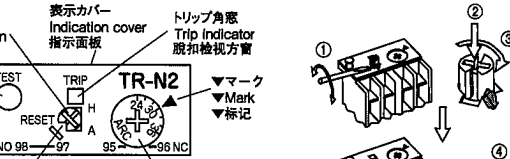

Fig.9
- (1) Turn the current setting dial within the scale so that the full load current of the motor is at the ▼ mark (Fig.9). Do not use beyond the scale, or the expected performance cannot be obtained.
(2) By pulling the test button, checking of control circuit wiring can be done. If it is depressed the NC contact (95-96) is opened. If it is released, the NC contact is closed again. (Fig.9)
(3) When the thermal overload relay operates, the trip indicator displays a yellow sign. If the thermal overload relay is reset, indication disappears from the indicator. (Even if the thermal overload relay operates, the yellow sign does not show in the trip indicator at automatic reset mode.) (Fig.9)
(4) If the thermal overload relay operates, first remove the cause of failure such as overload, and then lightly press the reset button to reset it. (In this case, the thermal overload relay cannot reset, if it is not cooled sufficiently.)
- (1) 在刻度范围内调整标度盘，请将电动机的全负荷电流对准▼标记。在(Fig.9)刻度范围外使用时，无法满足性能。
(2) 拉起测试按钮，可进行程序检查。推入测试按钮，b触头(95~96)断开，松开测试按钮，则b触头重新闭合。(Fig.9)
(3) 热过载继电器动作时，脱扣檢視视窗显示黄色。复位后视窗的指示消失。(自动复位状态下，即使脱扣动作也无黄色指示)(Fig.9)
(4) 当热过载继电器工作时，先排除超负载等异常原因后轻轻按下复位按钮进行复位。(此时，若热过载继电器没有充分冷却，则无法复位。)